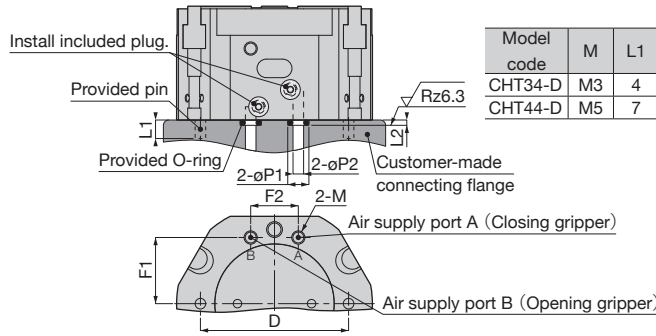

Fig. 4
- By using a provided O-ring, direct air supply from a customer-made connecting flange is possible. Refer to the dimensions in Fig. 4 and process a connecting flange. Surface roughness of the sealing surface must be Rz6.3 or less, when processing the flange.